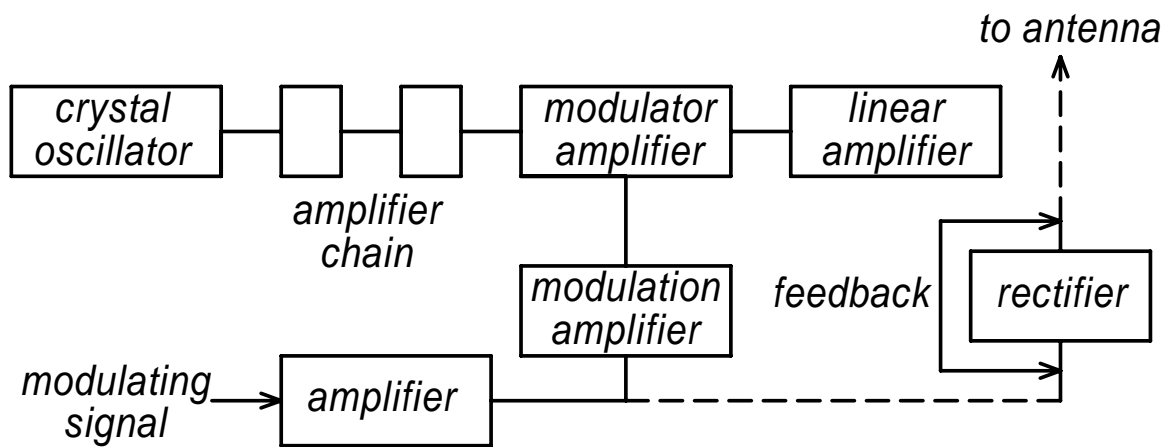

fig. 12
information it is desired to transmit. Fig. 12 shows a block diagram of a typical transmitter employing amplitude modulation.
1. What two devices are the main parts of any radio system? 2. What is the function of a radio transmitter? 3. What type of transmitter is shown in Figure 12? 4. How is the desired frequency generated in an amplitude modulated transmitter? 5. How is it possible to improve the characteristics of an amplitude modulated transmitter? 6. Where do frequency modulated transmitters find extensive use? 7. What is the main advantage of frequency modulation? 8. What are the functions of a receiver? 9. What does Figure 12 represent? 10. How is the selection of the desired station usually accomplished?